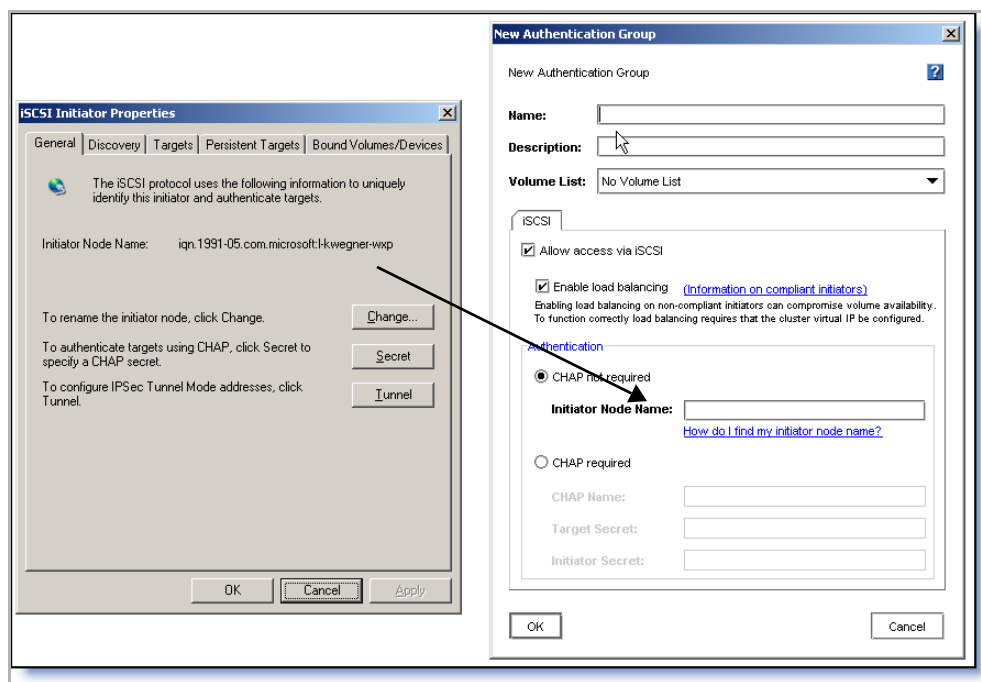

Figure 178. Creating iSCSI Access in a New Authentication Group
- In the New Authentication Group window, shown in Figure 178, select the check box to allow access via iSCSI.